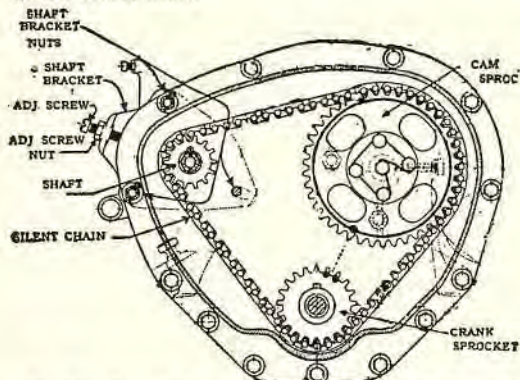

Fig. 35. Cam-shaft gear on the Studebaker "EJ" driven by a silent chain. Note that the chain has an exterior adjustment.
To set the cam shaft if silent chain has been removed: Fig. 35 shows one silent chain driving the cam shaft and generator in a Studebaker model "EJ" six-cylinder engine. If the engine was a four-cylinder engine, cylinders 1 and 4 would be up together, whereas with a six-cylinder engine, cylinders 1 and 6 are up at the same time.
Procedure: Crank the engine until cylinders 1 and 6 are on upper dead center of compression stroke by getting marks "UP-D-C 1-6" on the fly wheel opposite pointer, on the rear of the starter housing. With the crank shaft in this position turn the cam-shaft sprocket until the punch mark on the cam gear will be directly between the two punch marks on the teeth of the crank-shaft gear (Fig. 35). Replace the chain, being careful to see that the cam shaft or crank shaft are not moved.
2. Movable sprocket (Figs. 35, 36, 37).